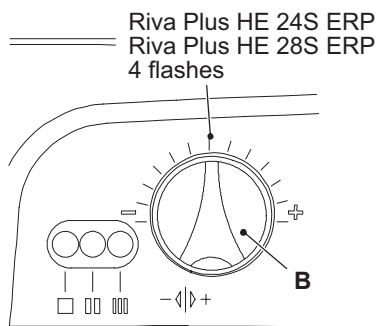

Figure 8.14
At this step it is possible to visualize the current setting by keeping the reset button D pressed for more than 5 seconds. The lamps F will flash a number of times corresponding to the setting (Figure 8.14).
- 7 To change the setting turn the knob B on a position corresponding to the boiler models (Figure 8.14). By turning the knob B, the lock-out signal lamp E blinks quickly (2 per seconds) indicating that the setting has changed and must be memorised.